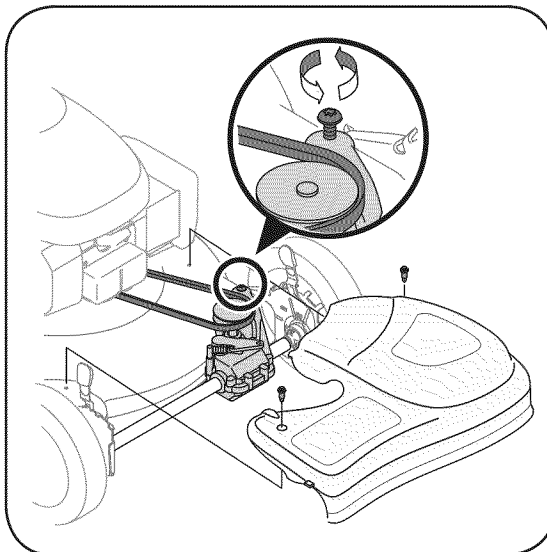

Figure 5-4: Remove cover to access the transmission and belt.
1. Remove two shoulder screws securing front drive cover to mower deck, Figure 5-4. Press inward on sides of front drive cover and release tabs that secure it to the height adjuster brackets. Remove drive cover.
2. Loosen screw holding belt tension spring to transmission, Figure 5-4. Do not remove screw completely. As you loosen it, tension on the belt will be released.